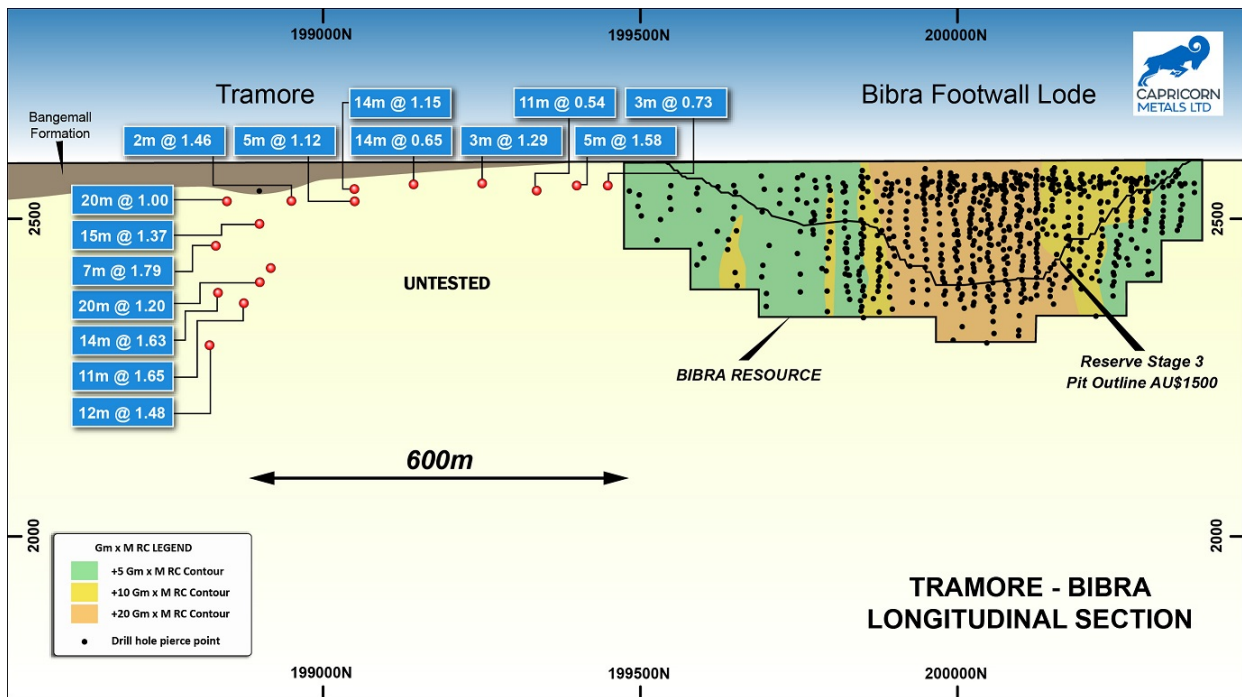

Figure 3: Longitudinal Section: Bibra Gold Deposit to Tramore Prospect
- The RC drilling has delineated a consistent 10-20m wide mineralised horizon that dips gently (~30°) to the west and is interpreted to be the extension of the Bibra Mineral Resource Main Footwall Lode (Figures 3 and 4).